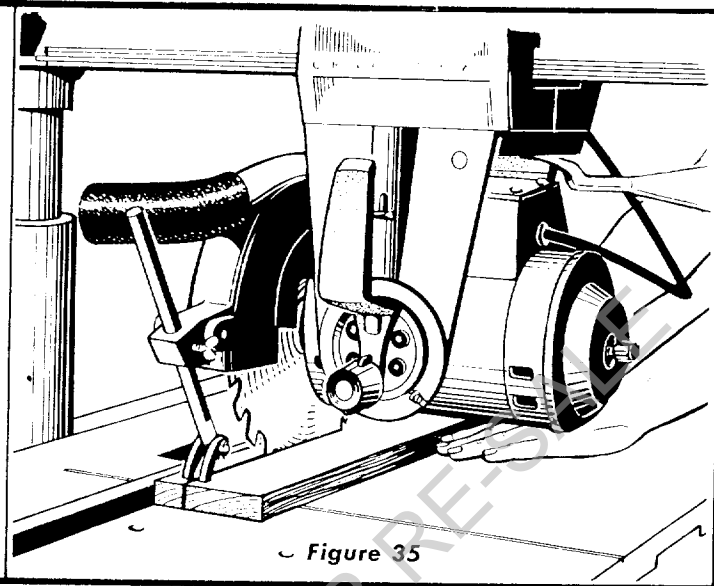

Figure 35
**IN-RIPPING**—*In-rip* refers to a position when the blade is between the motor and the fence and parallel to the fence. (See figure 35.) To place the saw in this position, unlock the yoke, disengage the swivel latch pin and rotate the yoke 90° clockwise (viewing it from the carriage) until the swivel latch pin automatically indexes the yoke 90°. Relock the yoke. See "Adjustment of Pointers" to check accuracy of "In-Rip" scale reading. Position the motor on the radial arm until the pointer on the "In-Rip" scale indicates the desired width of the finished cut board. Tighten the carriage lock knob securely. Position the discharge elbow on the guard so that sawdust will be blown toward the rear of the saw. Turn the saw "On" and lower the radial arm until the saw blade cuts into the table top about  $\frac{1}{32}$ ". Turn the saw "Off". Now adjust the saw guard and anti-kick pawl assembly as described in the paragraph "Ripping". The board to be ripped must be fed into the saw blade from the right side of the table, therefore, the normal position for the operator is also at the right side of the table. With the left hand safely clear of the blade and holding the board to be ripped down against the table and against the face of the fence as a guide, use the right hand to feed the board into the saw. The left hand should remain stationary, serving as a guide only. As the right hand approaches the left hand, hold a push stick with the right hand to complete the cut. Do not leave a long board unsupported so that the spring of the board causes it to shift on the table. A support like that described in "Cross-Cutting" can be used to support the board behind the blade; and if the board is very long, use another support in front of the saw. Ripped boards up to  $8\frac{3}{8}$  inches wide can be cut in the "In-Rip" position when the fence is against the front table. With the fence moved to the extreme rear position, ripped boards up to 16 inches wide can be cut.